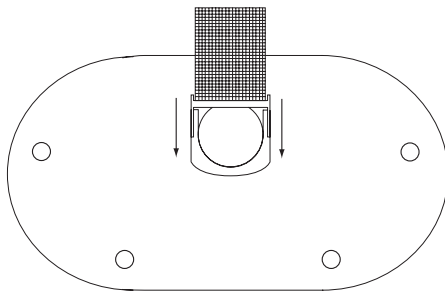

Figure 2 (side view)
- ② Rotate carrying strap so it does not interfere with opening case. You can also remove the carrying strap by sliding down then off (see Fig. 2).
- ③ Unsnap and open screen case.